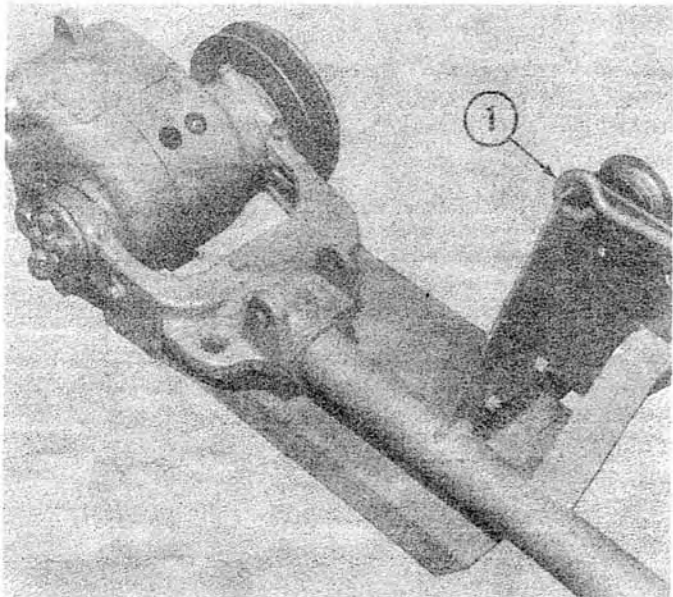

Fig. 51 - Commencing Assembly
1. Take the drag bar and drive assembly unit and place on blocks, as in Fig. 51. The support rod for the cutter bar (Figs. 51 and 52) should be inserted in the belt idler support, as illustrated, and the open eye end closed, either by leverage or by a few taps from a hammer (6 lb. or heavier).